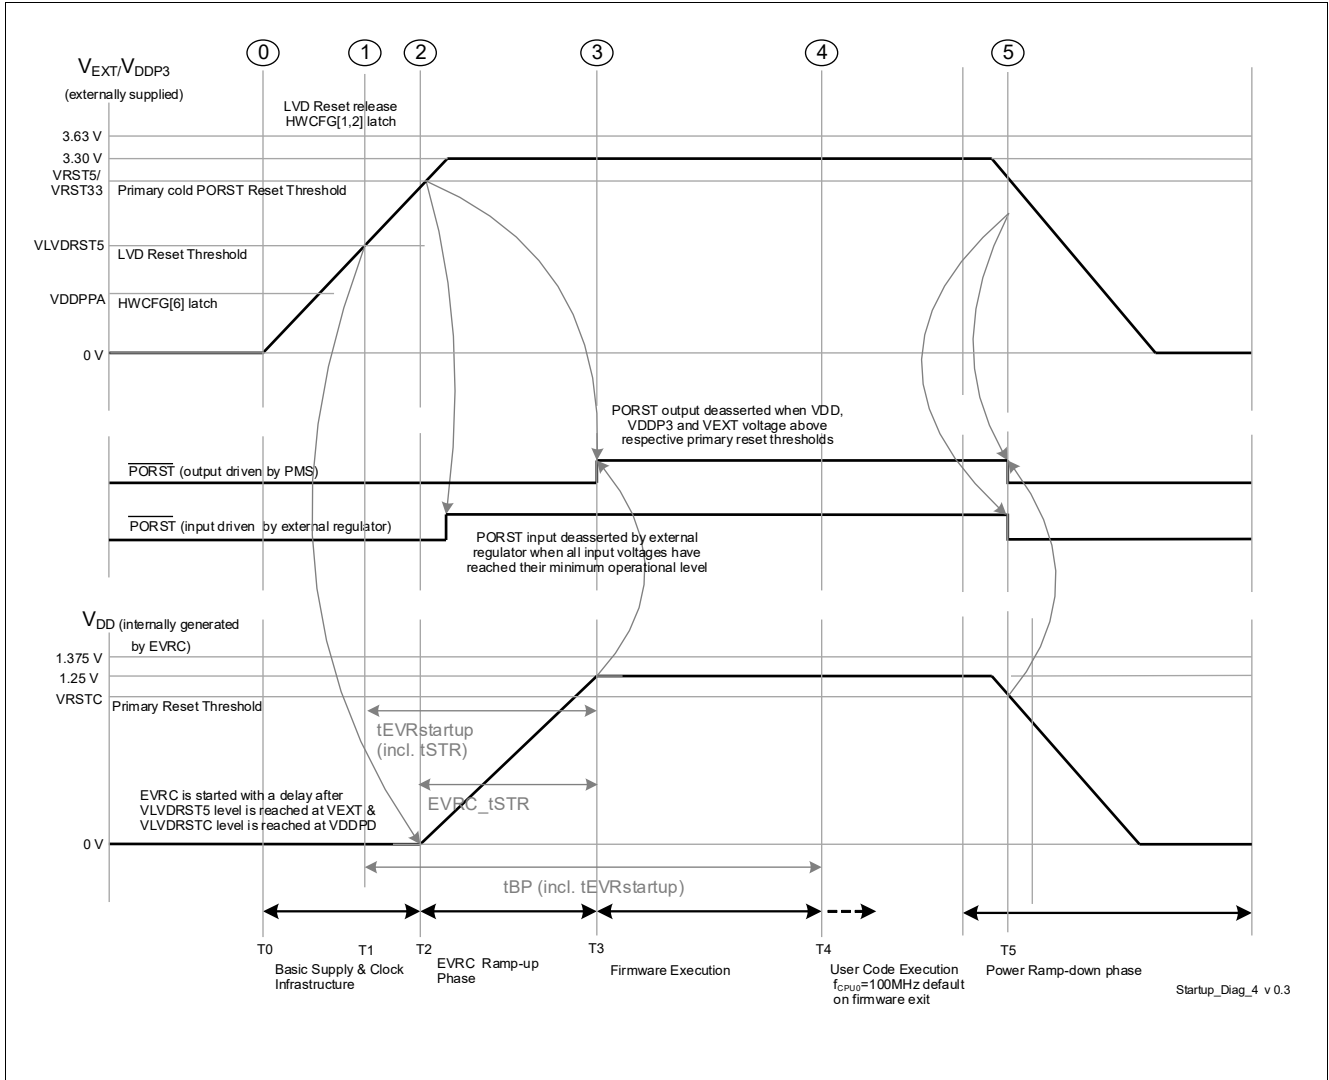

Figure 3-4 Single Supply mode (e) - (V_{EXT} & V_{DDP3}) 3.3 V single supply
- The power sequence as shown in **Figure 3-4** is enumerated below